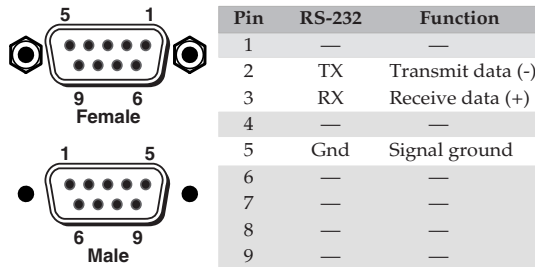

Figure 2-9 — Remote connector pinout
- ⑦ **Remote connector** — Connect an RS-232 device to this DB 9 female connector (figure 2-9) for remote centering control. Software for RS-232 control is included with the interface. See chapter 3, *Remote Control* for details.